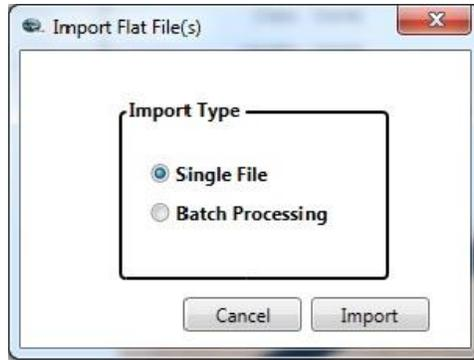

Figure 3-4. Import Flat File(s)
- *Import* – Damage data from previous versions of D-Calc may be imported into the currently selected D-Calc 4 database. Data for previous versions of D-Calc was stored in flat files – one file per pole. Either a single file or a batch file containing multiple file names listed sequentially may be imported. The Import dialog is shown in Figure 3-4.